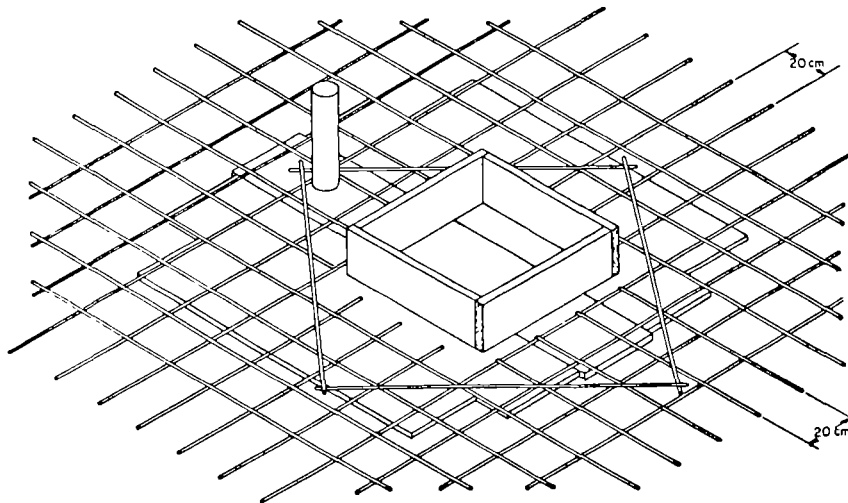

Figure 6. Reinforcement Around Access Hatch
Next, lay out ten (10) mm reinforcing bars on twenty (20) cm centers. The bars should extend fifty (50) cm beyond the edge of the well on either side. As shown in Figure 6, four bars should be laid out in a diamond shape around the hatch opening for additional strength. Tie the bars together with 16-gauge tying wire. Raise the bars $1\frac{1}{2}$ to 2 cm above the platform by placing small rocks under the reinforcing bar framework.